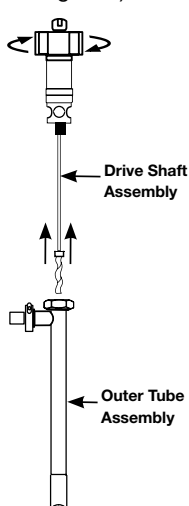

Figure 9
5. Once the hex nut is loosened, remove the outer tube from the drive shaft assembly (see Figure 9).
9. Once bearing housing, drive shaft, and rotor are securely threaded together, insert this assembly into the pump body (see Figure 9).